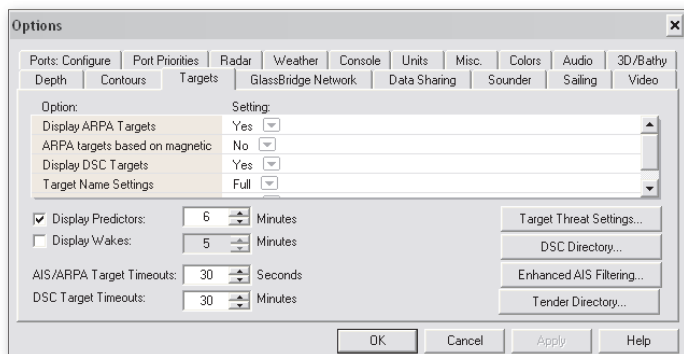

Figure 20.2 - Tools | Options - Targets Tab
1. Open **Tools | Options | Targets** (see **Figure 20.2**).